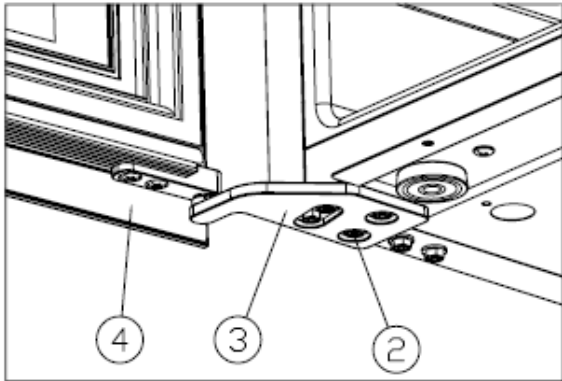

Figure 5
- ✧ Install the right upper hinge (3), and screw tight the M5*16 screws (2). [Figure 5]